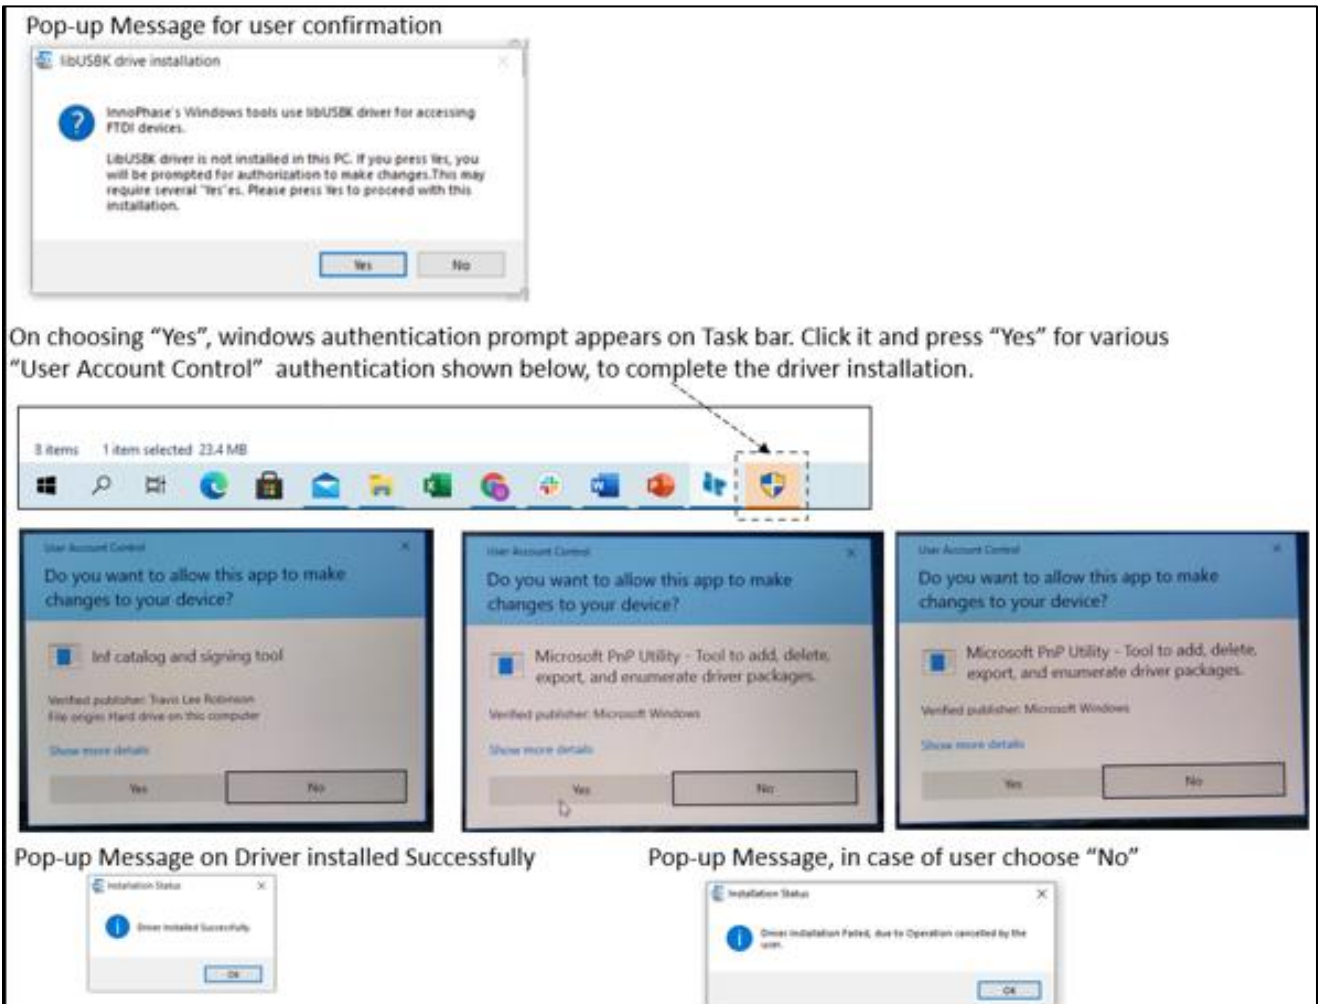
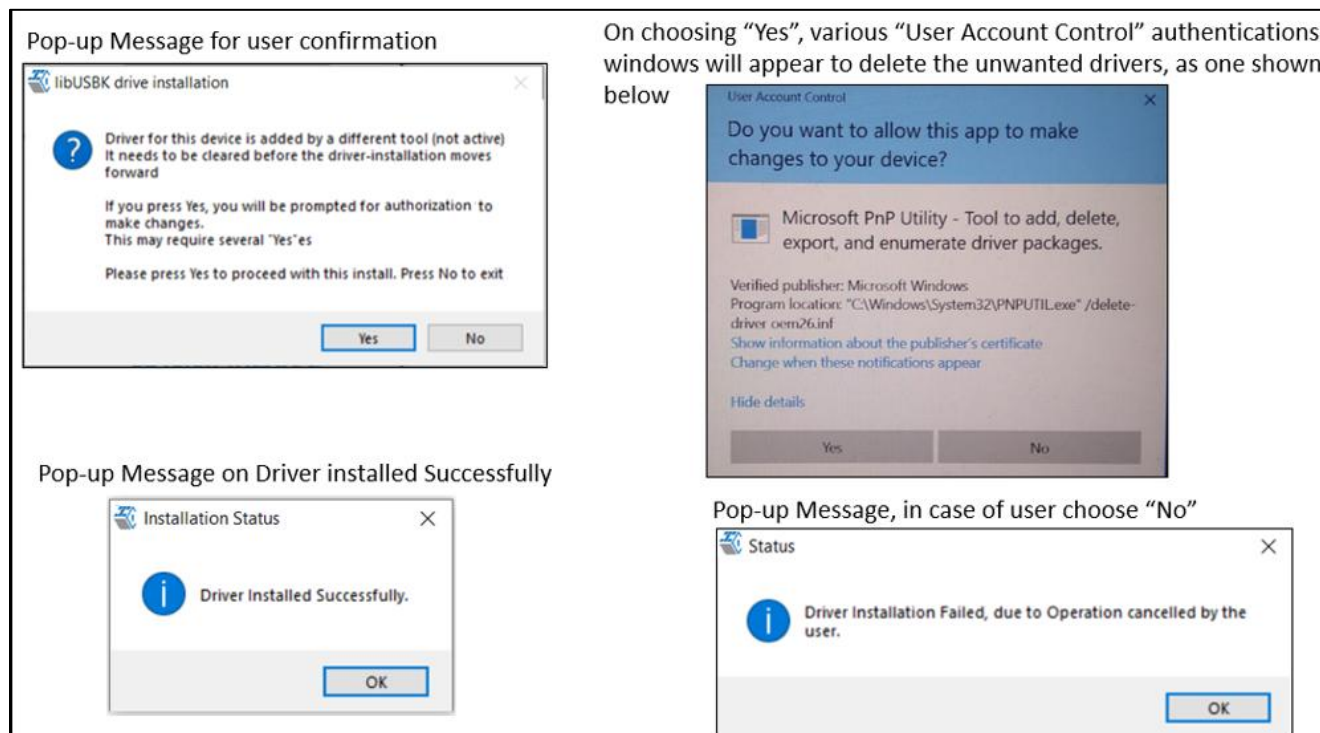

Figure 6: User Account Control authentication to complete driver installation
Figure 7: User Account Control authentication to delete the unwanted Libusbk drivers
Download Tool comes with an option of One-Click Installation of libusbk driver. In case the driver is not installed, the tool will ask for user confirmation to install this driver. If the user selects `yes`, various User Account Control authentication screens will appear to complete the driver installation (as shown in Figure 6).
1. In case of any other unwanted libusbk drivers that are already installed, tool will automatically uninstall the unwanted drivers. This action needs User Account Control authentication screens shown in Figure 7, in addition to Figure 6. Each unwanted drives will require a separate User Account Control authentication for uninstallation.
2. INP3000 Board may get detected under any already installed device driver (using libusbk driver). In this case, the tool will follow the procedure of One-Click Installation of libusbk driver (as shown in Figure 6), and might get completed with a pop-up message “Driver Installation Failed”. This will result in any one of the following two conditions: